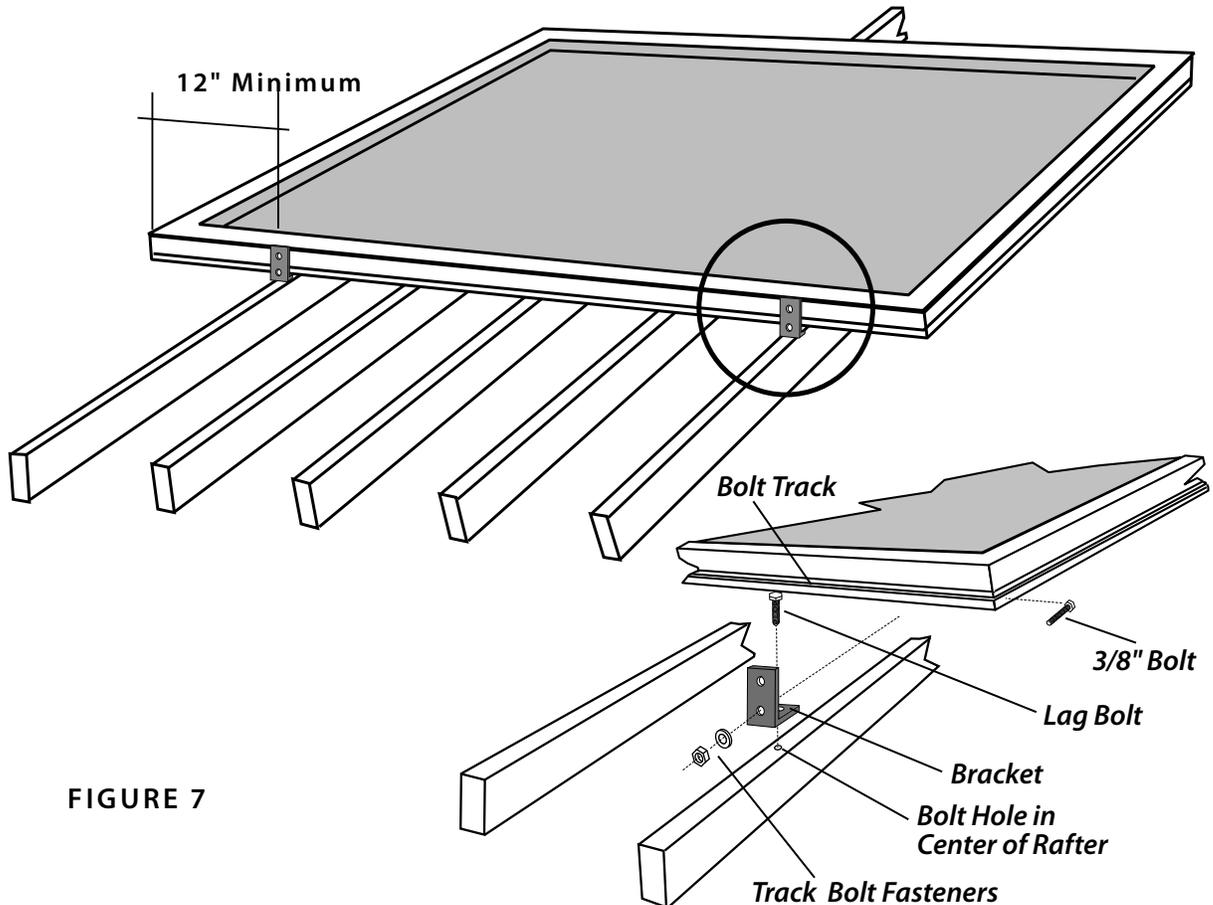

FIGURE 7
3. Figure 7 shows the preferred location and orientation of the Mounting Brackets. Install the Brackets as close as possible to the locations shown using the existing Rafter spacing.